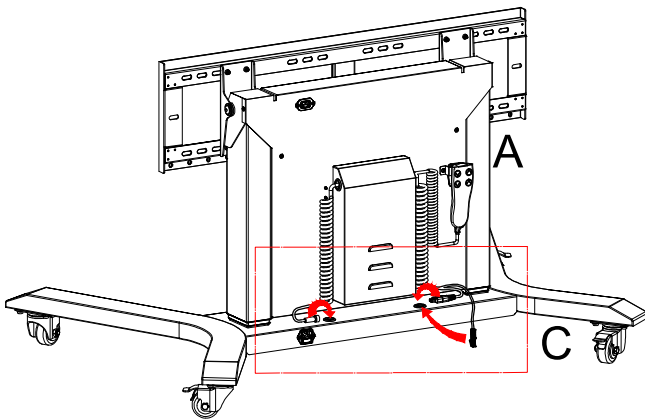

Figure 6
2)Feed the wires from the column (A) into the base (C), as Figure 6